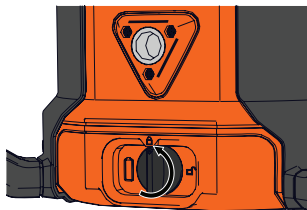

Figure 10
9. Push in and turn the battery lock knob counterclockwise to the “Lock”  position to lock the battery cover. (Figure 10)